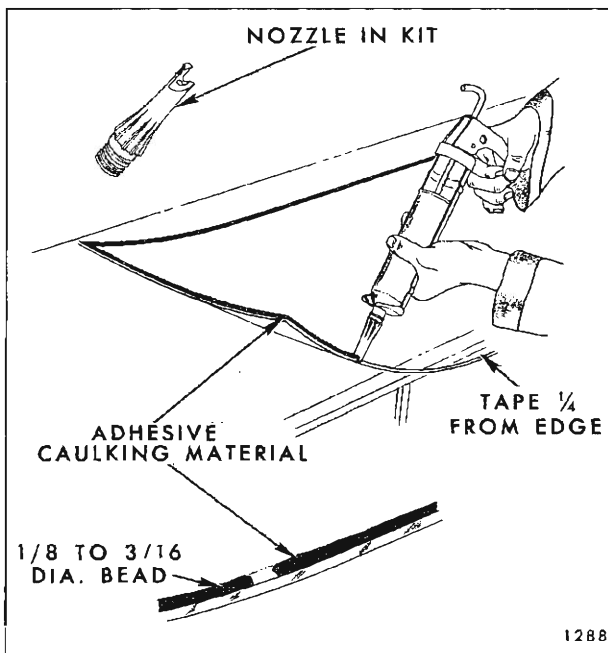

Fig. 4-6—Adhesive Material Application - Short Method
7. Apply a smooth continuous bead of adhesive caulking material around entire inside edge of glass as shown in Figure 4-6. Material should be  $1/8$ " to  $3/16$ " in diameter.